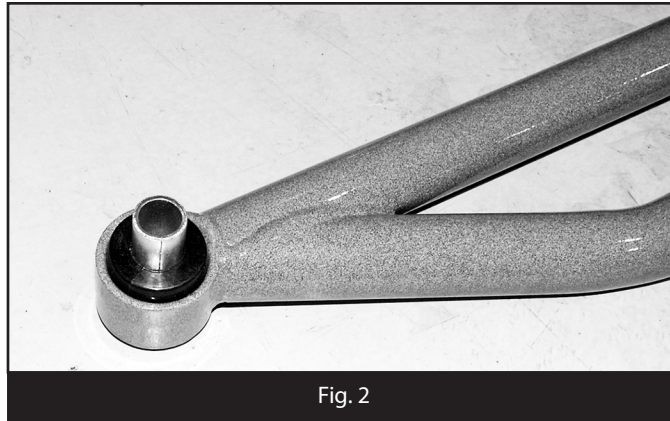

Fig. 2
5. Lightly grease and install the provided hourglass bushings (M02016BK) and sleeves (54587) in the ends of the new traction bars (01805). (Fig 2)